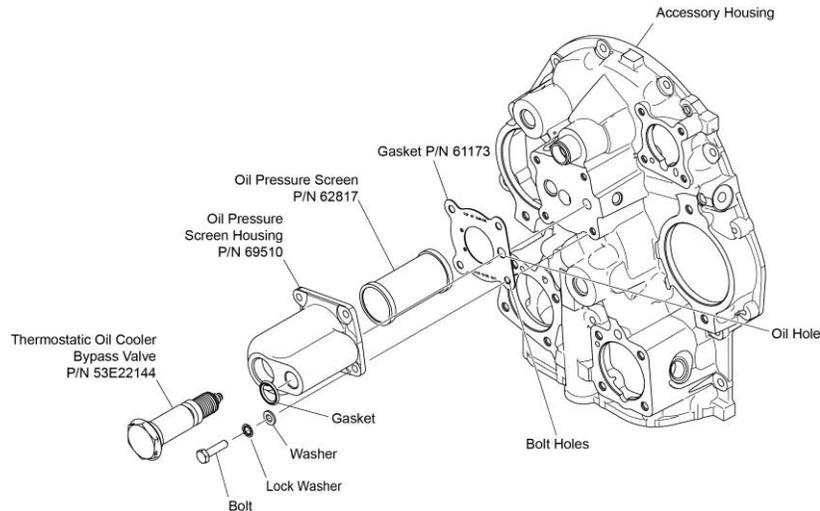

Figure 4
Required Parts and Part Numbers in Figure 4
9. Install the oil pressure screen in the new oil pressure screen housing P/N 69510 (Figure 4).
NOTICE: Be sure the oil hole (Figure 4) in the gasket aligns with the oil hole in the accessory housing.
10. Install the new oil pressure screen housing P/N 69510 (with the oil pressure screen installed) on the accessory housing with a new gasket P/N 61173 (Figure 4).
13. Install the thermostatic oil cooler bypass valve P/N 53E22144 with gasket P/N 76510 (included) in the new oil pressure screen housing (Figure 4). Torque the thermostatic oil cooler bypass valve to 300 in.-lb. (34 Nm).